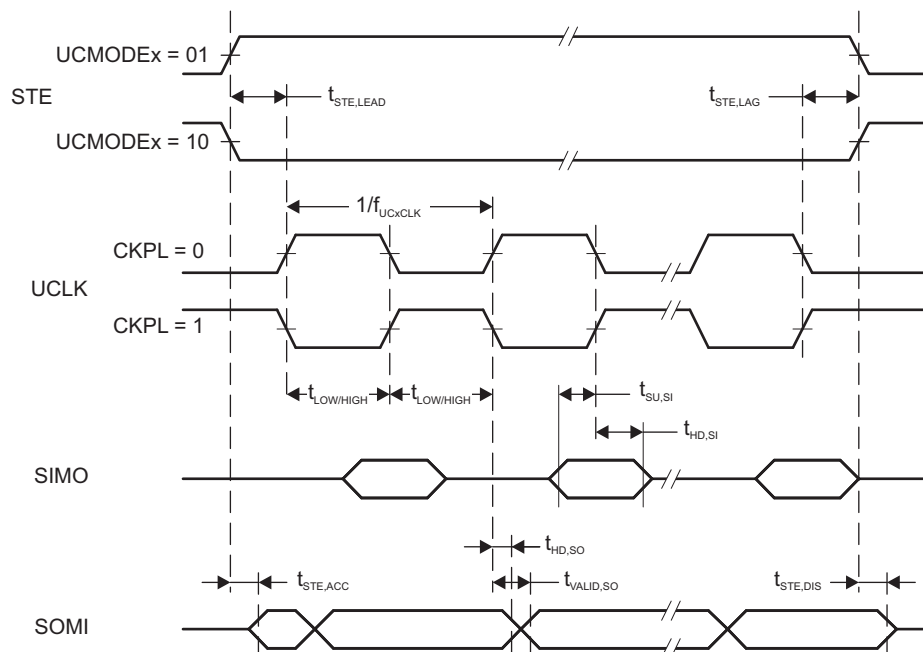

Figure 5-16. SPI Slave Mode, CKPH = 0
- (2) Specifies the time to drive the next valid data to the SOMI output after the output changing UCLK clock edge. See the timing diagrams in Figure 5-16 and Figure 5-17.
- (3) Specifies how long data on the SOMI output is valid after the output changing UCLK clock edge. See the timing diagrams in Figure 5-16 and Figure 5-17.